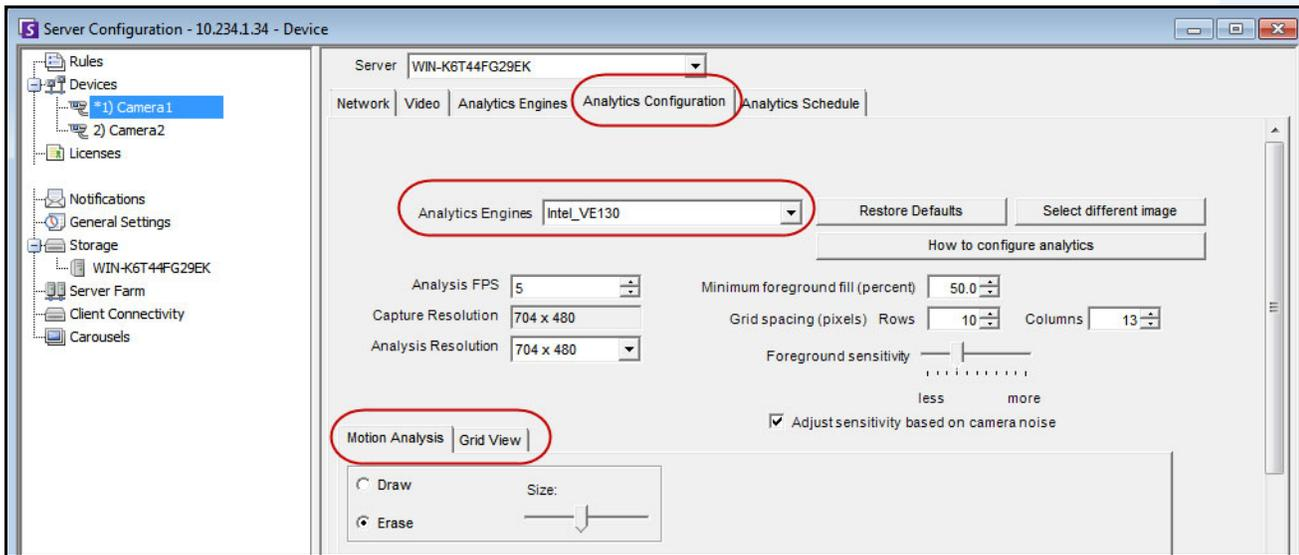

Figure 6. VE130 - Analytics Configuration tab (Grid View subtab)
5. Click the **Analytics Configuration** tab (Figure 6 on page 117).